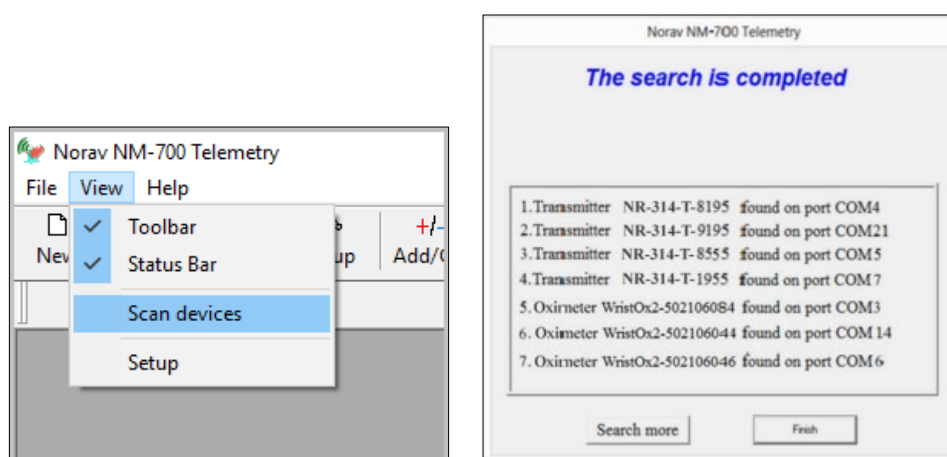

Figure 2: Registering ECG and SpO2 Devices
3. Select **Scan devices** from the **View** drop-down list (see Figure 2 - left).
5. Wait until the successful detection message appears (see Figure 2 - right).
6. Click **Finish** to close the message box (see Figure 2 - right).